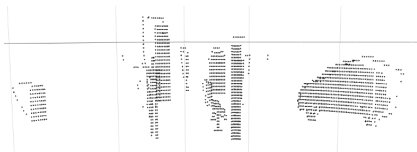

Figure 3: Data after Filtering the LiDAR Scan Lines
- ▶ Figure 3 visualizes the data after filtering the LiDAR lines and Figure 4 visualizes the objects after clustering